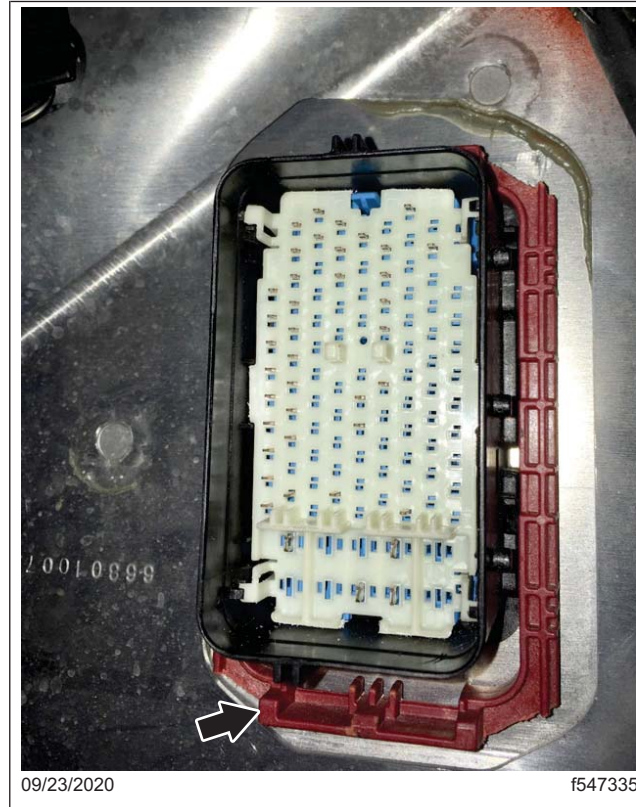

Fig. 4, Ring Clip in Locked Position
2. Ensure the red ring clip is in the locked position, with space between the bottom of the 104-way pass-through connector and the ring clip. See Fig. 2 and Fig. 4.